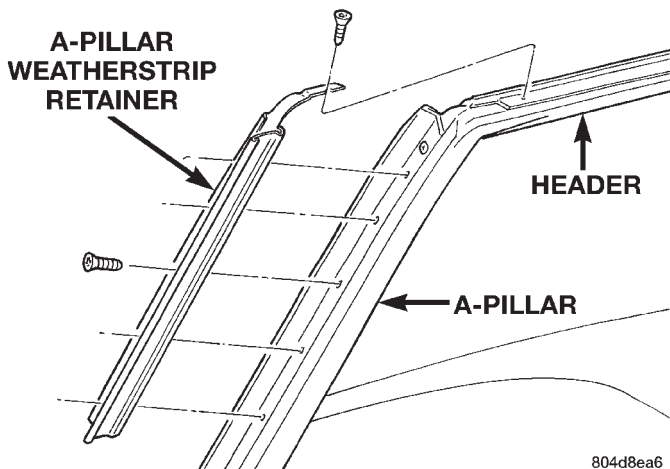

Fig. 38 A-Pillar Weatherstrip Retainer
- (1) Partially raise convertible top.
- (2) Remove header and A-pillar weatherstrip as necessary to gain access.
- (3) Remove screws holding A-pillar weatherstrip retainer to A-pillar (Fig. 38).
- (4) Separate retainer from vehicle.
- (5) Remove screws holding A-pillar molding to A-pillar.
- (6) Separate A-pillar molding from vehicle.